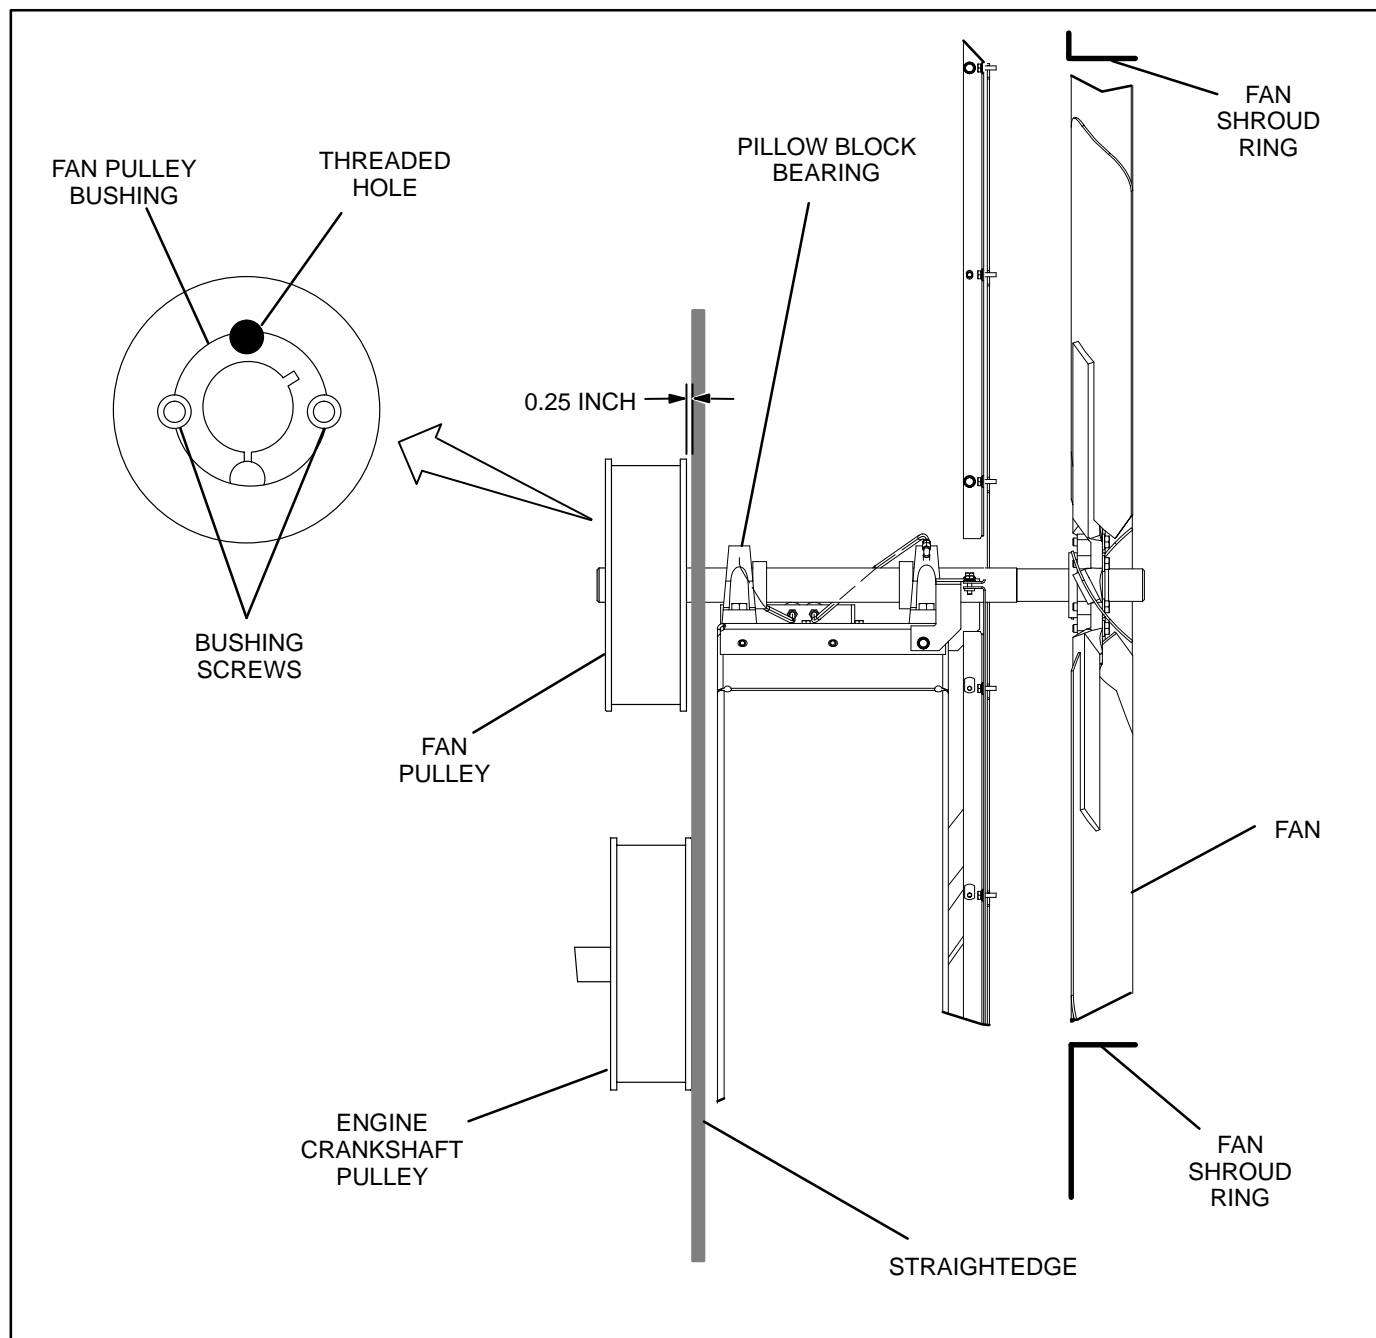

FIGURE 11-2. FAN DRIVE PULLEY ALIGNMENT
4. Check the alignment using a long straightedge (not supplied). The straightedge should be flat against the vertical surface of the engine pulley near the center. See Figure 11-2. The fan drive pulley should be 0.25" nominal toward engine from straight edge.
- C. Remove the two screws from the fan pulley bushing. Install one of these screws into the threaded hole located between the two screws that were removed. (Figure 11-2). Tighten the screw to separate bushing from pulley and remove the screw.